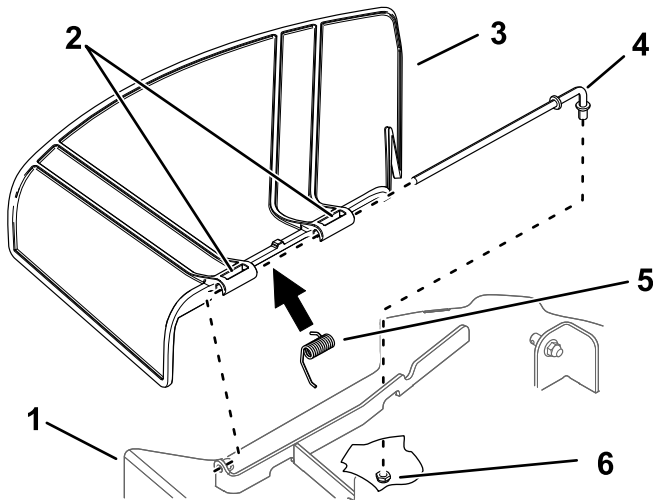

Figure 75
- Remove the nut (3/8 inch) from the rod under the mower (Figure 75).
- Slide the rod out of the deck bracket, spring, and grass deflector (Figure 75).
- Install the new grass deflector (Figure 75).
- Slide the rod through the second grass-deflector pivot (Figure 75).
- Secure the rear end of the rod into the mower with a nut (3/8 inch) as shown in Figure 75.